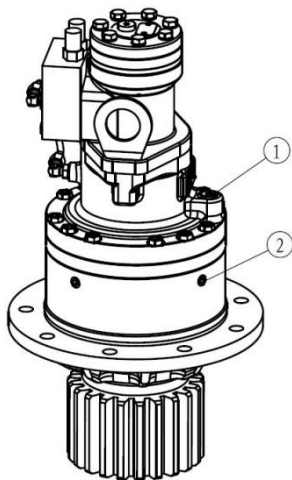

Figure 1-4 Swing Gearbox
- Remove the plug on the side and inspect the oil level, as shown in Figure 1-4.